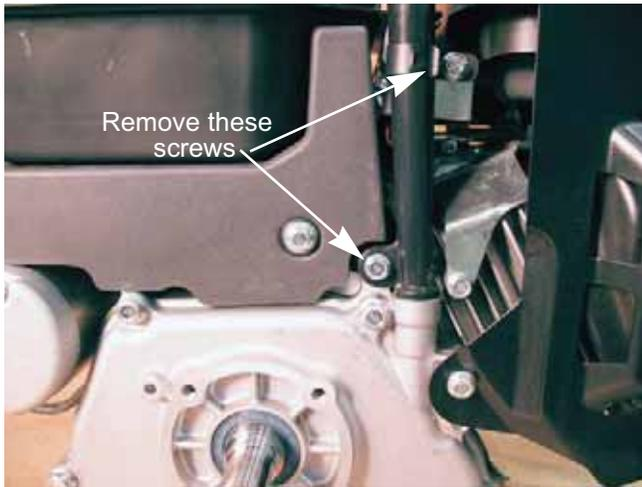

Figure 5.4
1. Remove the upper screw that secures the dip stick tube to the fuel tank support bracket using a 10 mm wrench. See Figure 5.4.
2. Remove the screw at the bottom of the dip stick tube using a 10 mm wrench. See Figure 5.4.